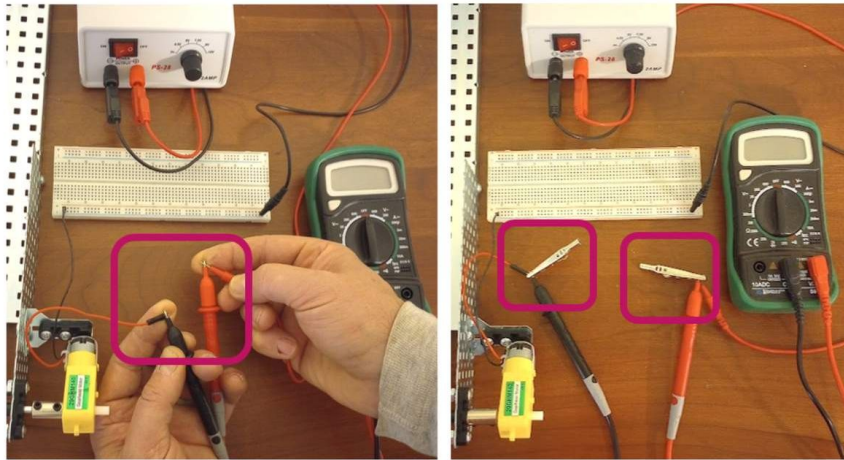

Figure 13. Electrical Connections
- Touch and hold the black multimeter test probe to the red lead from the motor to start the motor turning, as shown in Figure 13. For help using a multimeter, review Multimeter Operation.